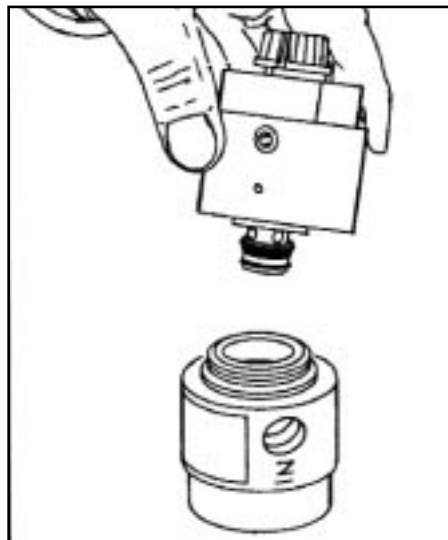

Figure 2
2. Use an adjustable wrench on the flats at the top of the valve body assembly to unscrew and pull off the valve assembly. (Fig.2)